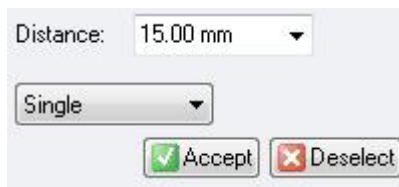
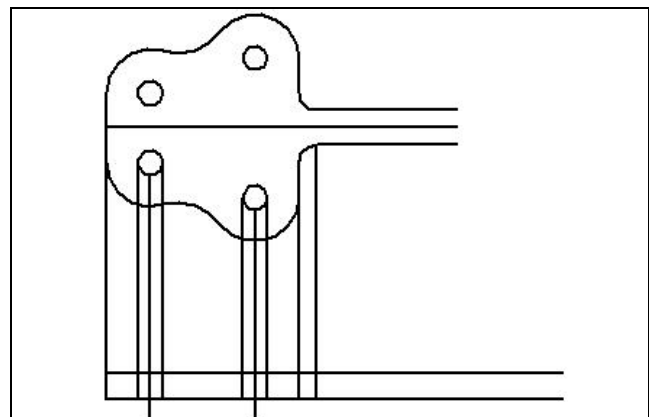
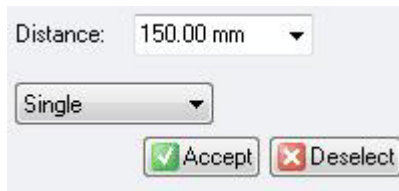
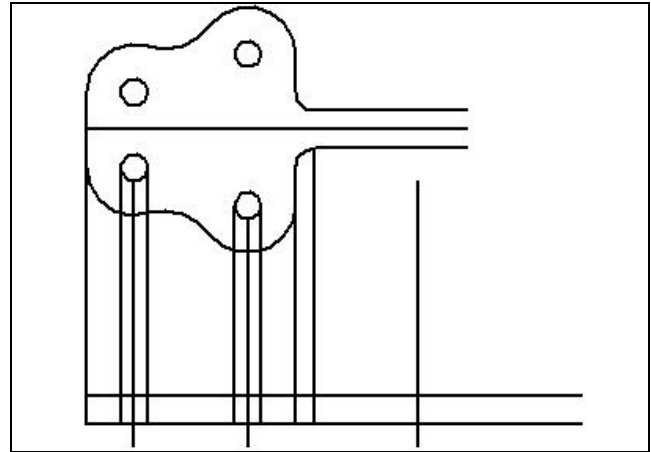

Figure 10.22 – Offset Window
Figure 10.23 – 15 mm Offset Baseline
Figure 10.24 – Offset Window
Figure 10.25 – 150 mm Offset Line
Select the **Offset** tool on the **Draw** panel. Type “15” into the Distance textbox in the Offset Window and choose the “**Single**” offset option (Figure 10.22). Select the baseline of the front orthographic view and then hit the Accept button the Offset Window. Place the offset line above the base line by left clicking with your mouse and then right clicking to end the command (Figure 10.23). We will offset another line to make the centerline for the bracket’s loop so stay in the **Offset** command. In the distance textbox, type “150.” Select the “**Single**” offset option and then select the line coming off of the south quadrant of the left hole (Figure 10.24). Hit the Accept button on the window and then place the offset line to the right. Left click to place the line and then right click to end the command (Figure 10.25).
**\*(22-20)\* Create a New file using the Metric template and draw the 31 entities shown in Figure 10.25 in 2 minutes and 35 seconds. Continue this drill four times, each time completing the drawing in less than 2 minutes and 35 seconds to maintain your World Class ranking.**